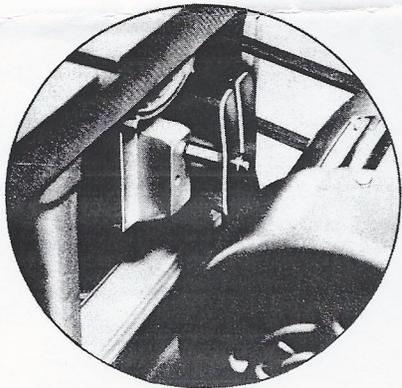

FIGURE 3
Install as shown in Fig. 3 and outlined under "Installation of Saw".
The Motor Mount Bracket should be installed as shown in Fig. 3.
2. Fasten the motor rail bracket, No. 20, to the rear of the saw so it is flush with the bottom of the base. Use the two (2) slotted head machine screws, No. 26, lock washers, Nos. 19 and 27 and hex nuts, Nos. 18 and 28 provided.
3. Turn the guide pin, No. 34, into the hole at rear of saw body as shown in Fig. 3.